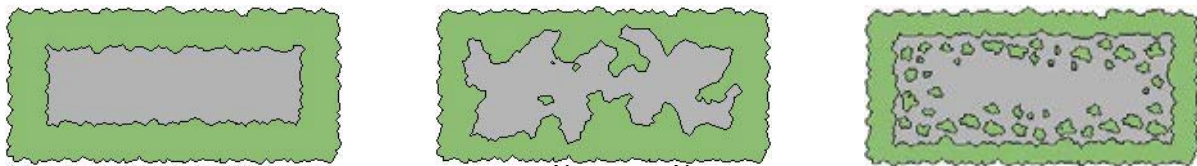

Figure 6. Irregular & Feathered Edges vs. Straight Edges
- **Create visual screens** along roads and streams with irregular-shaped borders, uncut or partially cut buffer strips, and feathered forest edges (*Figure 6*).